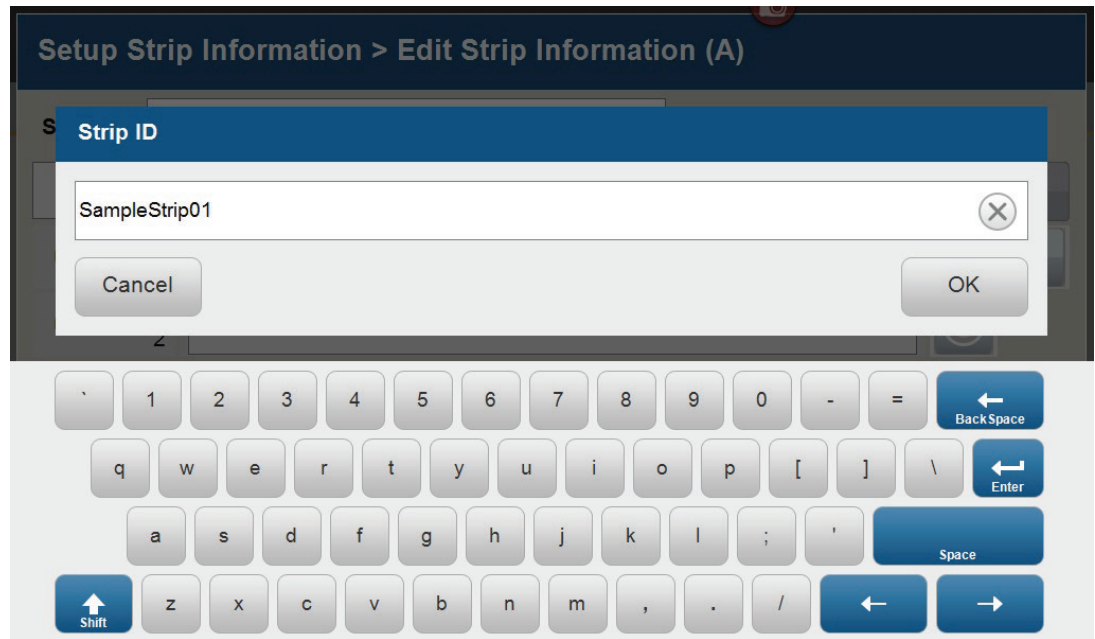

Figure 11. 'Set Strip ID' window.
3. The default Strip ID is date and time. It can be modified by selecting the Strip ID field. This opens the 'Set Strip ID' window and a keypad will become active on the touch screen (Figure 11). Alternatively, the Strip ID can be entered using a traditional keyboard if one is connected to the Spectrum Compact CE System. Enter the appropriate Strip ID, and then select **OK** to exit and return to the 'Edit Strip Information' screen.